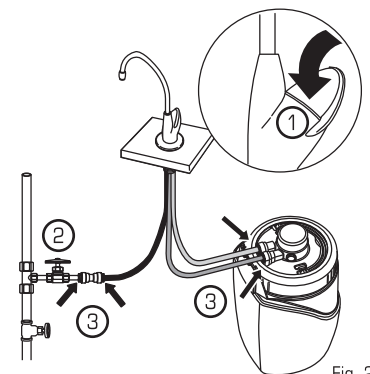

Fig. 23
7. Open the eSpring Faucet ①. Open the water supply shut-off valve to start water flowing through the Carbon Water Treatment System ② (Fig. 23).
8. Turn off the eSpring Faucet and check for any signs of leakage at all tubing connections ③ (Fig. 23). If there is leaking or bubbling, refer to Troubleshooting, p. 7.